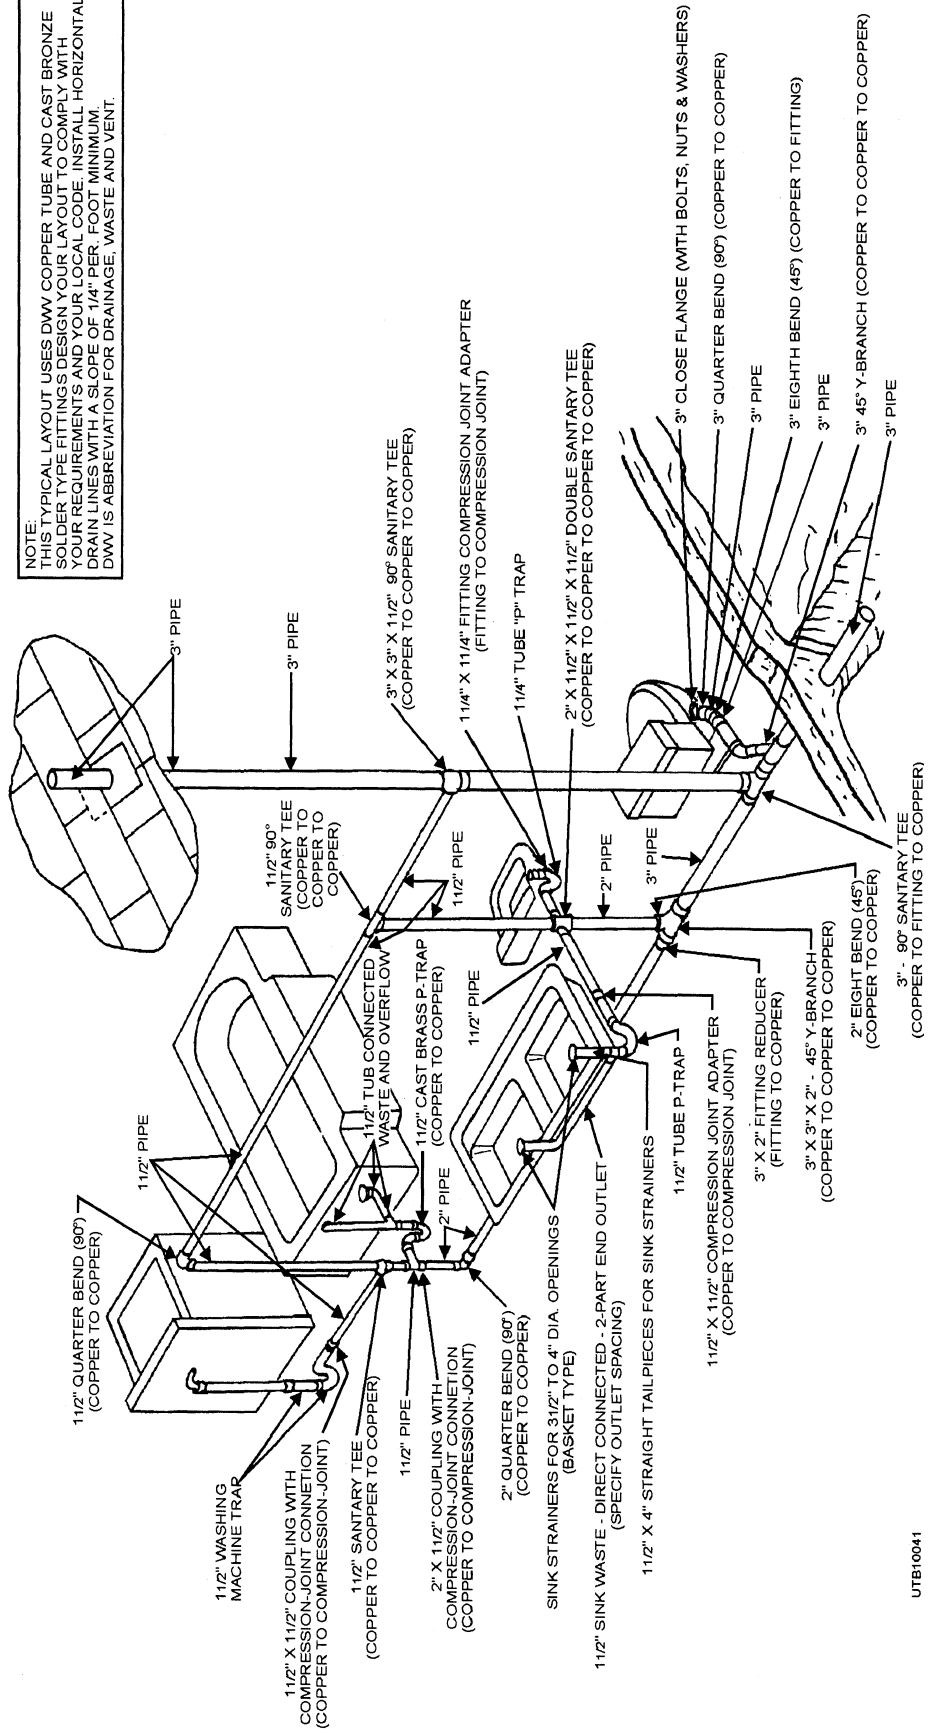

Figure 3-41.—Typical one-story copper DWV system.
**BENDING.**—Copper, properly annealed, can be bent by hand when sharp bends are not desired. Copper partially collapses during the bending process if a tubing bender is not used or if the copper is not filled with some kind of easily removable material, such as sand. Simple bends can also be made by wrapping the outside of the copper tightly with soft wire and bending the copper by hand; however, if a line must make a 45- or 90-degree bend, you should use a tubing bender. Hand-tubing benders are available for each size of copper. These benders assist you in making neat, accurate bends easily, quickly, and without marring the copper or restricting the flow through the copper. It is easy to make a bend but difficult to get the bend in the correct location on the copper and to the correct degree. Be certain that you have the correct size bender for the copper you intend to bend. A bender that is either too small or too large for the copper will make a faulty bend. Figure 3-40 shows one type of tubing bender. Figure 3-41 shows a typical one-story copper DWV system.